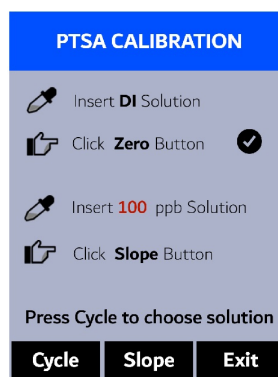

Figure 5.
6. If the calibration succeeds, a checkmark ( ✓ ) and instructions for the slope calibration will appear (Figure 5).